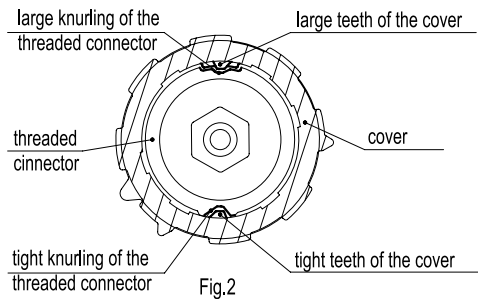

Fig.2
- Fit the cover on the threaded connector by properly matching the two different teeth (one large and one tight) inside the cover, with the relevant knurlings on the upper part of the threaded connector (fig. 2).